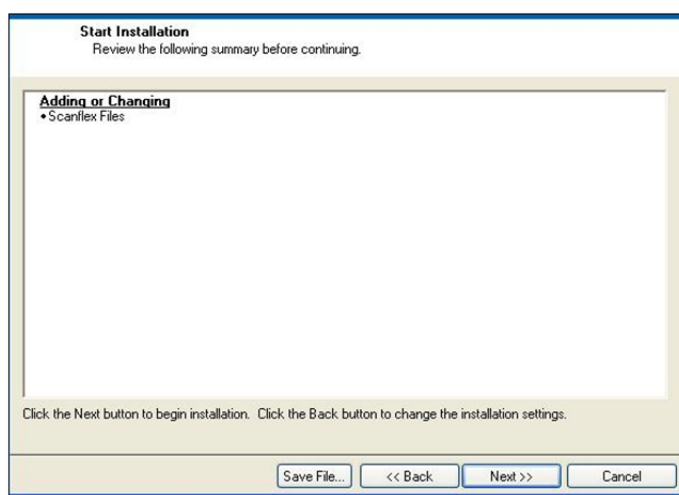

Figure 6. Installation start screen
- 4) Click *NEXT* on the start installation screen (**Figure 6**).